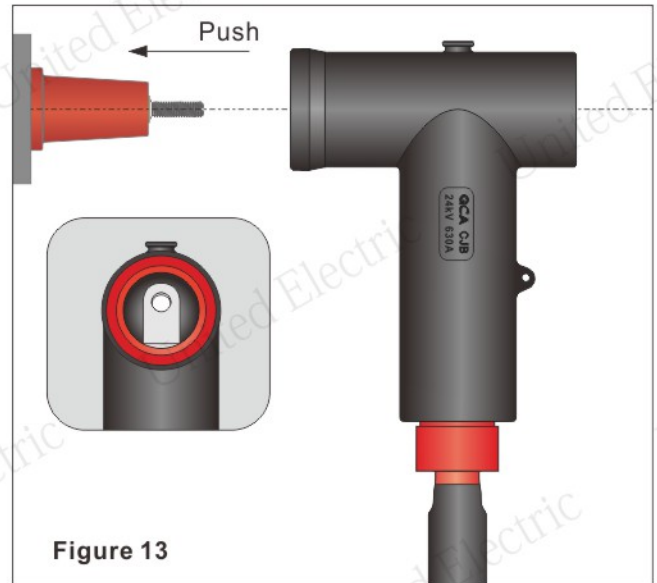

Figure 13
- Align the eye of the cable lug with the threaded stud and push the screened connector CJB20-630 onto the bushing. (Figure 13)